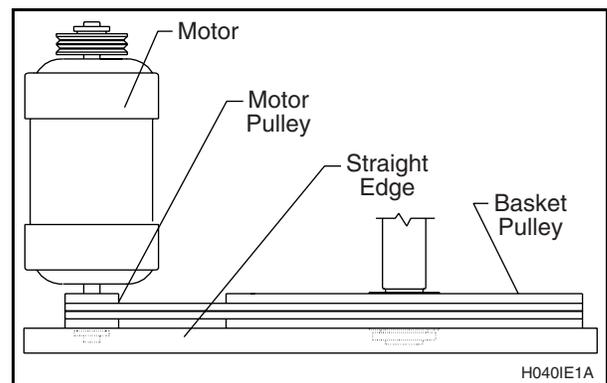

Figure 50
- For groove-pulley drive systems, verify alignment by placing a straightedge across both pulley faces. The straightedge should make contact with the pulleys in four places. See Figure 50.